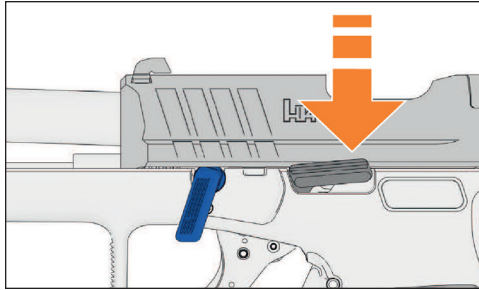

Figure 23 – Removing slide from frame assembly by pushing it forward
3. Depress the slide release and push the slide forward, removing the slide from the top of the frame assembly (see Figure 23).